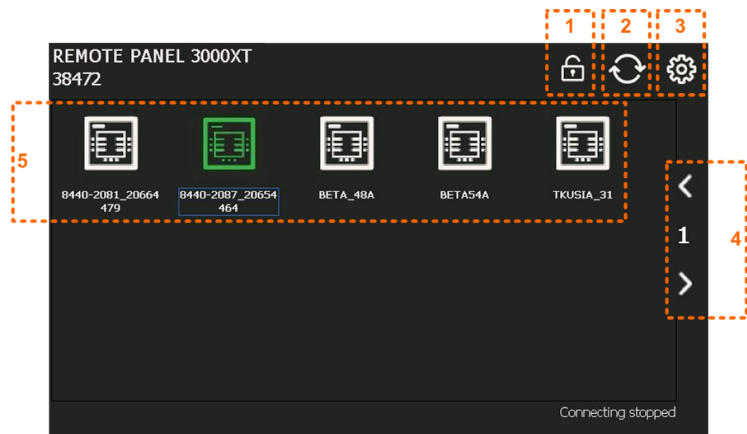

Fig. 18: Device MULTICAST screen
- ➔ Open the SETTINGS screen with a push the settings icon ⚙ (pos. 3, Fig. 18)